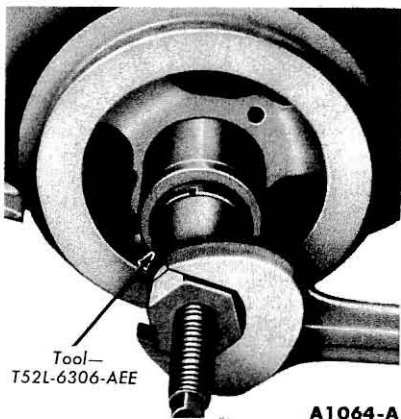

FIG. 37—Damper Installation
6. Install the damper on the crankshaft (Fig. 37).